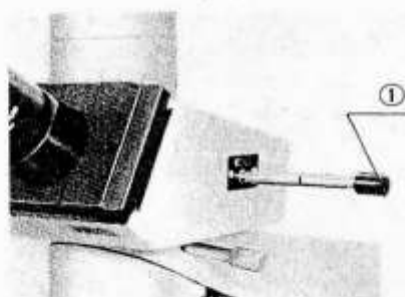

Fig. 14
- 1) The trinocular tube is provided with a light path selector lever ① to direct the light to the observation tube and/or to the photo tube in 3 positions. (Fig. 14)